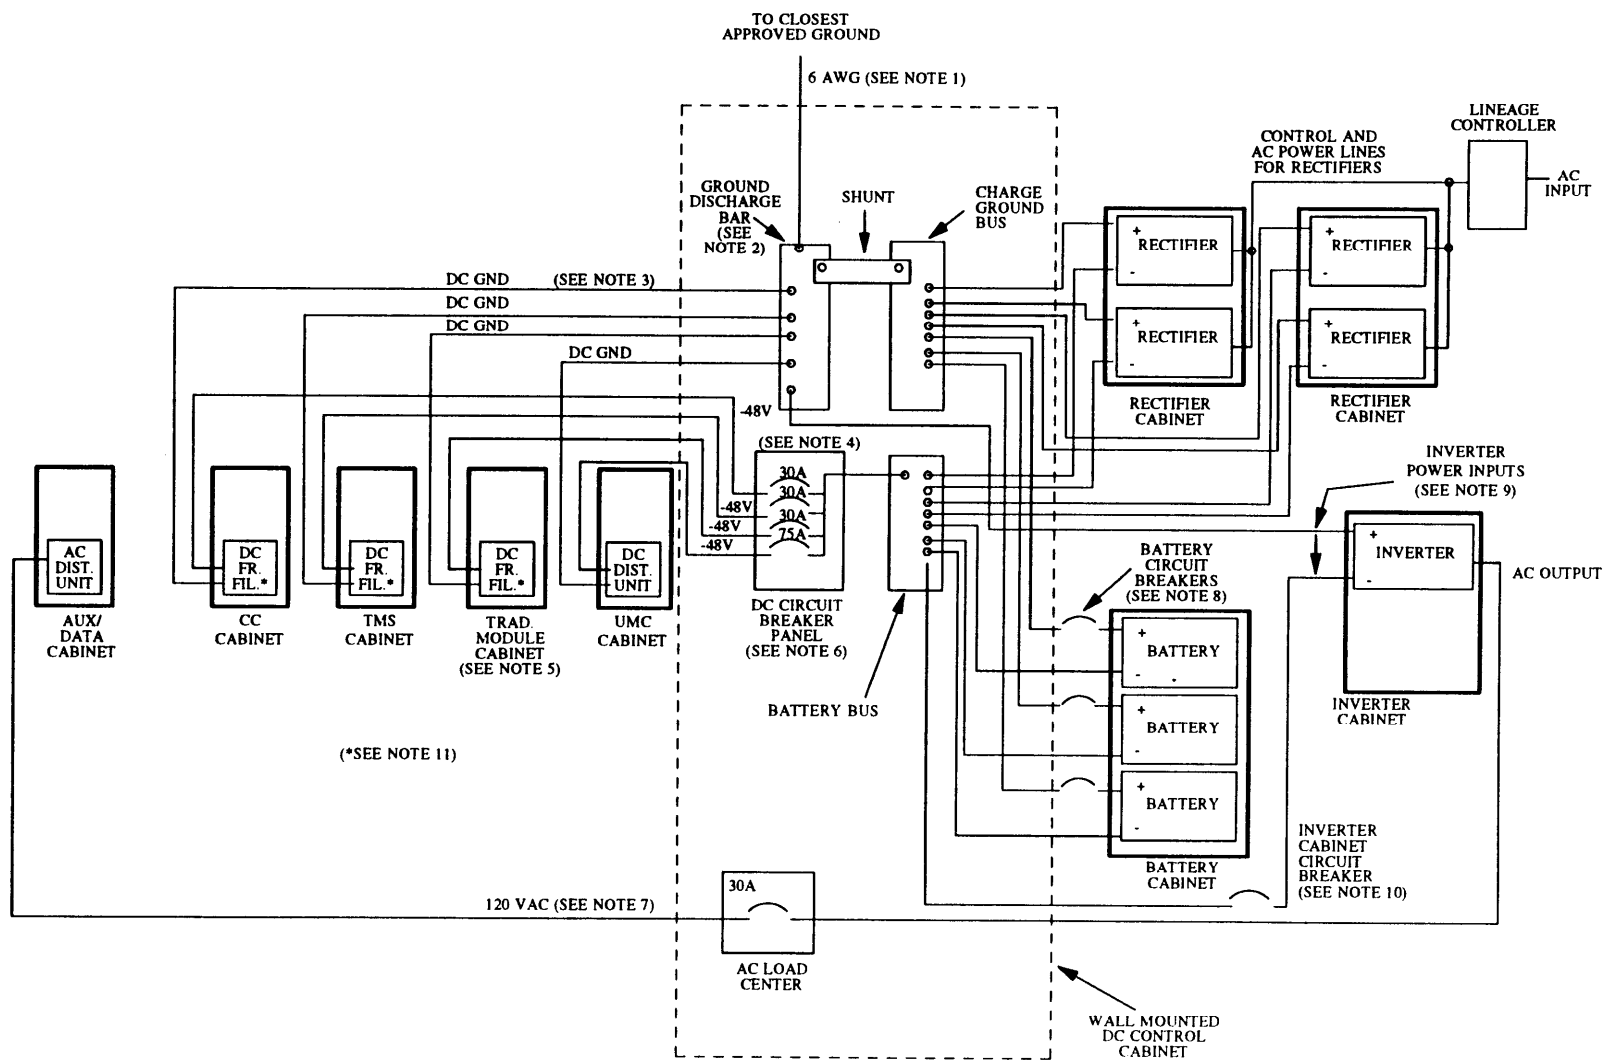

Figure 24-1. Typical Battery Plant for DC Systems
A typical battery plant is shown in figure 24-1. Refer to this figure while reading the following sections for identifying the battery plant components.
NOTES FOR FIGURE 24-1:
1. This is only a partial view of the battery plant. For a detailed view showing the total system, see figure 24-1.